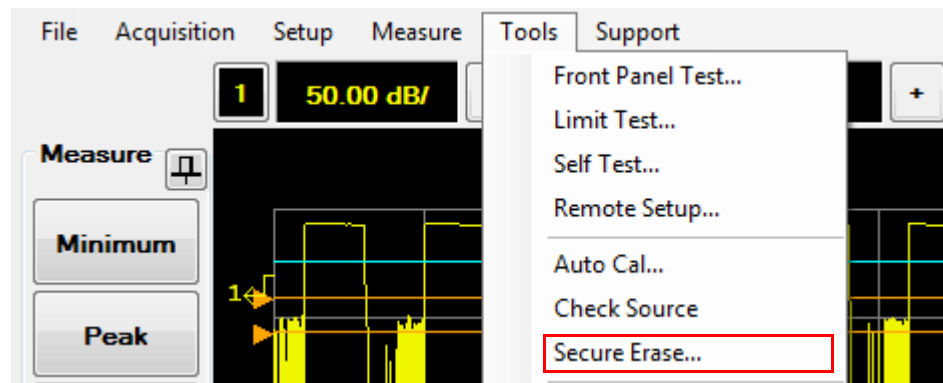

Figure 2-146 Secure Erase... selection in the Tools menu
- 1 Select **Tools > Secure Erase...** on the toolbar as shown in Figure 2-146.